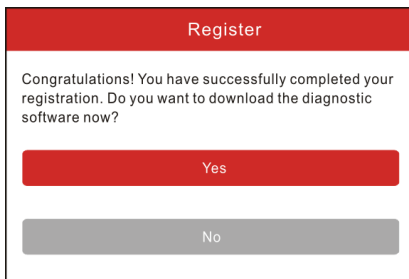

Fig. 4-6
C. Update diagnostic software: Tap “Activate”, a dialog box similar to Fig. 4-6 will appear: